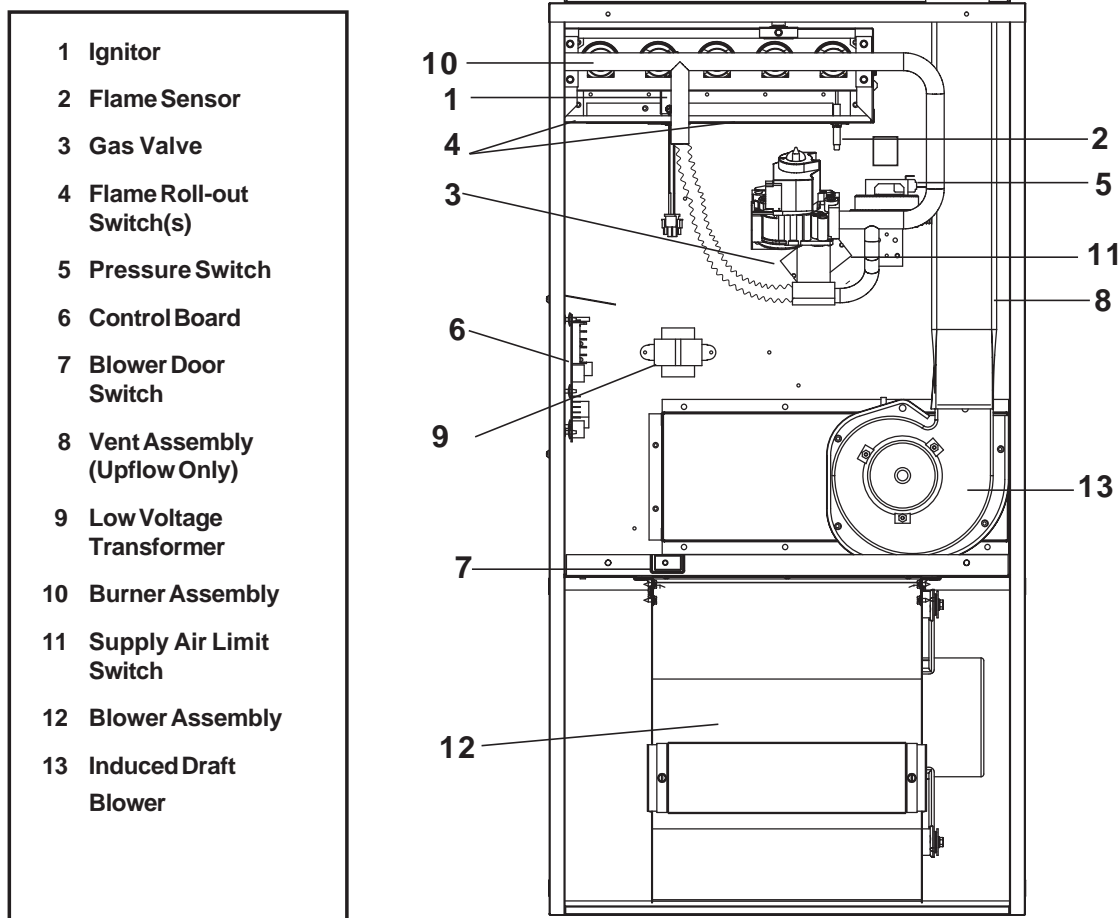

Figure 20. Location of Major Components
If the furnace locks out after 5 attempts for ignition, it will try again every hour if a call for heat remains. If the inducer and circulating air blowers are operating, and items 1 through 8 have been checked, press the red reset button on the vent safety switch. (See Figure 20.) If the furnace operates after depressing the reset button, contact a qualified serviceman to identify and repair the problem.
If the furnace continues to not operate, depress the red reset buttons on the flame rollout switches. (See Figure 20.) If the furnace operates after depressing the reset buttons, contact a qualified servicemen to identify and repair the problem.